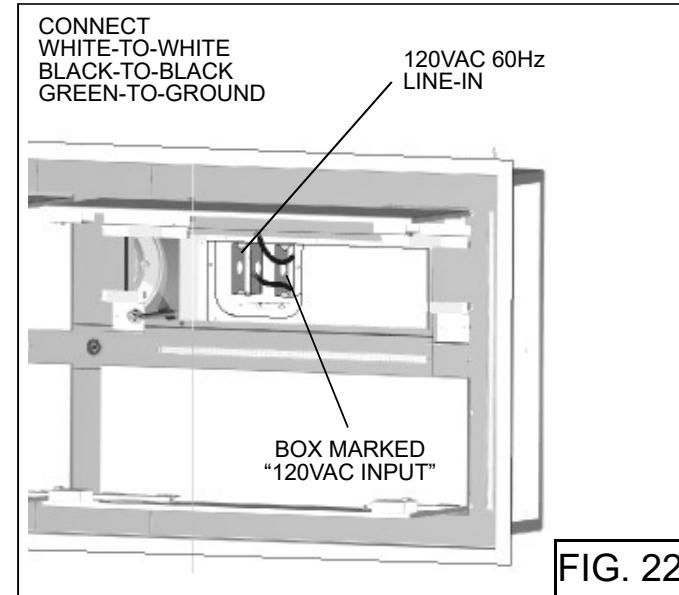

FIG. 22
4. From the electrical box marked "120 VAC Inlet", remove (2) screws that secure the cover to the metal wiring box. Fig. 22.